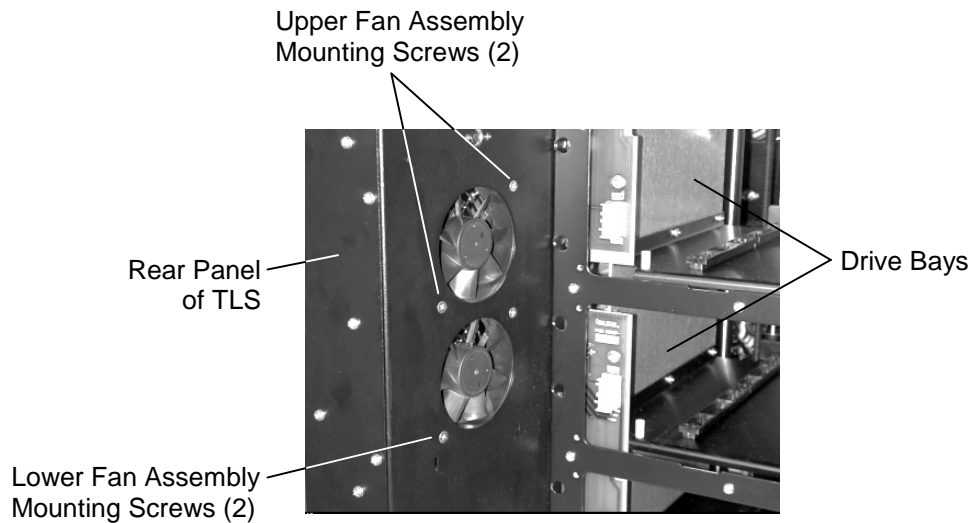

Figure 7-23 Fan Assembly Mounting Screws
6. Remove the two Fan Assembly mounting screws (Figure 7-23).
11. Align the Fan Assembly's mounting screw holes with the mounting screw holes in the TLS and then install the Fan Assembly mounting screws. Thread the nuts on to the mounting screws and then tighten the Fan Assembly mounting screws. See Figure 7-23.